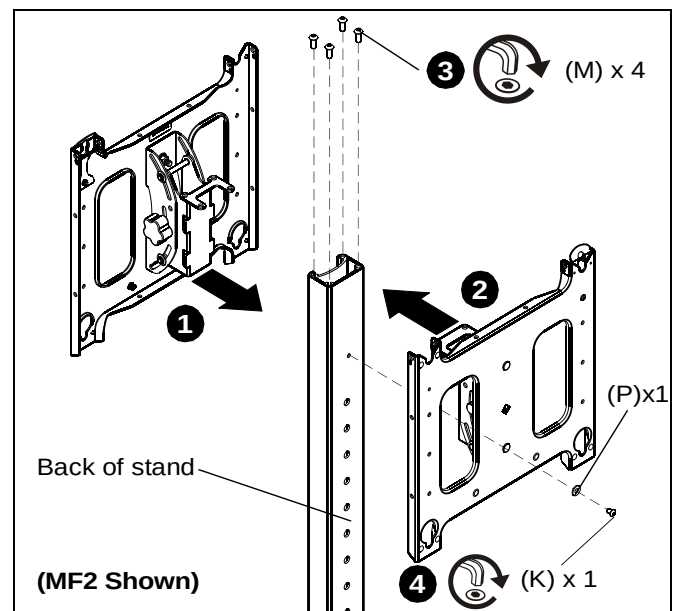

Figure 8
- Place head assembly (D) or (E) on the front of the stand assembly. (See Figure 8)
- Place second head assembly (D) or (E) on the back of the stand assembly, and on top of the front head assembly. (See Figure 8)
- Use four 5/16-18 x 3/4" button head cap screws (M) to fasten through both head assemblies. (See Figure 8)
- Fasten through back head assembly and back of stand assembly using one 1/4-20 x 3/8" button head cap screw (K) and one 1/4" washer (P). (See Figure 8)